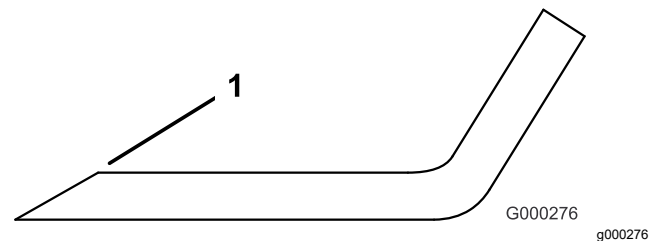

Figure 100
3. Examine the cutting edges of all of the blades and sharpen the cutting edges if they are dull or nicked (Figure 100).
**Note:** Sharpen only the top of the cutting edge and maintain the original cutting angle to ensure sharpness (Figure 100). The blade remains balanced if the same amount of metal is removed from both cutting edges.